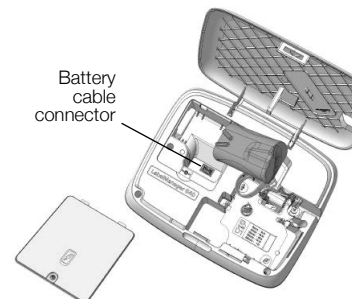

Figure 1
- 3 Insert the battery as shown, plugging the cable into the connector. See Figure 1.
- 4 Disconnect the battery cable from the connector. See Figure 1.